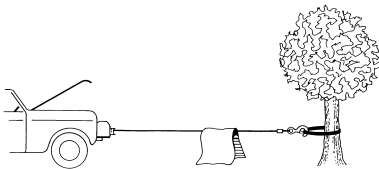

Figure 5
9. It is a good idea to lay a heavy blanket or jacket over the wire rope near the hook end when pulling heavy loads (Figure 5). If a wire rope failure should occur, the cloth will act as a damper and help prevent the rope from whipping. Raise the hood of the vehicle for added protection.